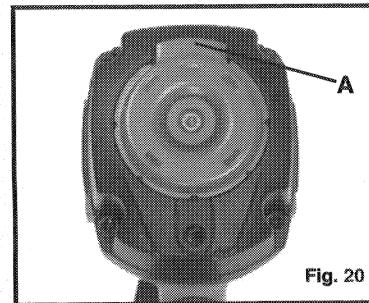

Fig. 20
5. Adjust directional exhaust deflector (A) Fig. 20, so that the exhaust air blast will be directed away from the operator. The exhaust deflector provides seven detented positions for directing the exhaust blast away from the operator. Grasp the deflector and rotate it to the desired position for the current application.